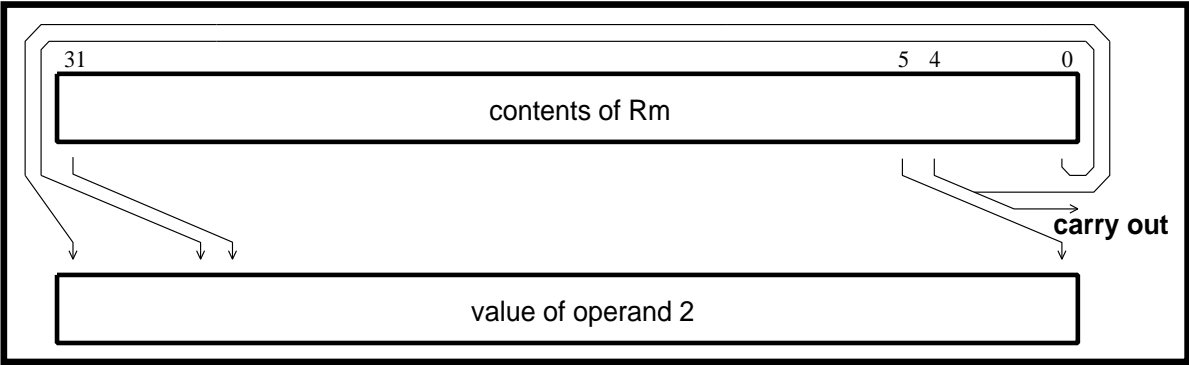

Figure 4-9: Rotate right
**Rotate right:** Rotate right (ROR) operations re-use the bits which “overshoot” in a logical shift right operation by reintroducing them at the high end of the result, in place of the zeros used to fill the high end in logical shift right operations. To illustrate this, the effect of ROR #5 is shown in **Figure 4-9: Rotate right**.
If the value in the Rotate field is zero, the shifter carry out is set to the old value of the CPSR C flag. Otherwise, the shifter carry out is set to bit 31 of the shifter result, just as though an ROR had been performed (see **Figure 4-9: Rotate right** on page 4-12).
If there is a choice of forms (for example as in #0, which can be represented using 0 rotated by 0, 2, 4,...30) the assembler will use a rotation by 0 wherever possible. This affects whether C will be changed in a logical operation with the S bit set - see **4.5.3 Immediate operand rotates** on page 4-13. If the rotation is 0, then C won't be modified. If the rotation is non-zero, it will be set to the last rotated bit as shown in **Figure 4-9: Rotate right** on page 4-12.